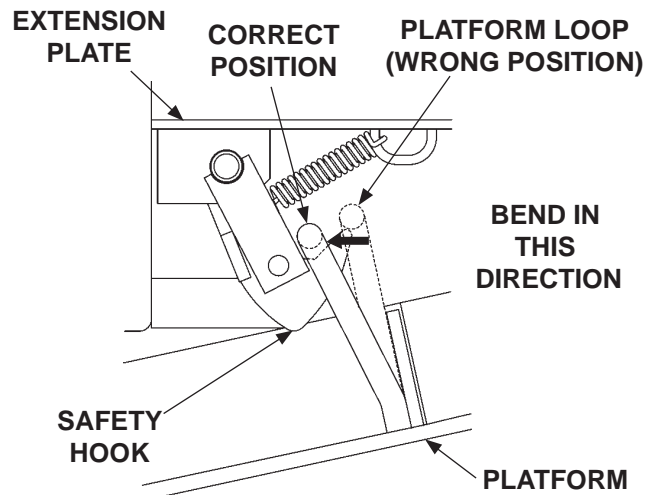

FIG. 20-1
2. When the Liftgate is stowed, see if **platform loop** is positioned above the **safety hook** as shown in **FIG. 20-1**.
2. Adjust by bending the platform loop as shown in **FIG. 20-1**.